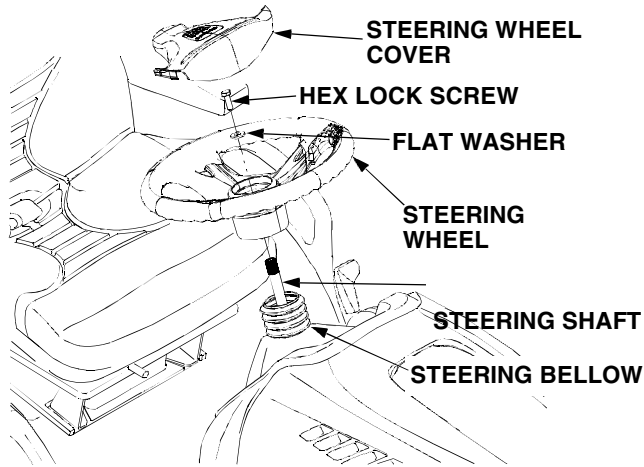

Figure 2-1
1. Locate the steering bellow and note the riser at one end of the bellow. With the riser facing upward, slide the bellow onto the steering shaft. See Figure 2-1.
4. From the operator's seat, rotate the steering wheel so that the spokes of the wheel are in the basic 'T' position. Align the splines of the steering wheel hub with the splines of the steering shaft and press the steering wheel onto the shaft. See Figure 2-1.